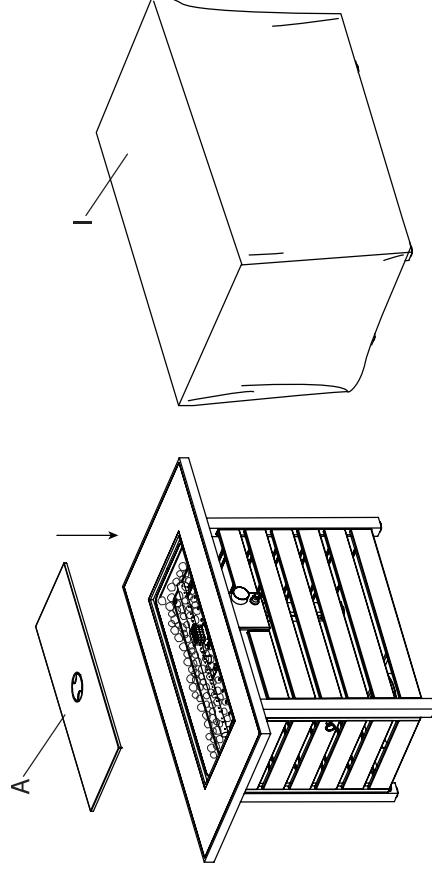

Figure 9
7. Open the box of lava rocks, put the lava rocks (K) into the fire bowl of the fire table, (see Figure 9). A gas fire pit requires 13.2 lbs lava rocks.
9. Once the firepit has cooled completely after use, carefully place the lid (A) onto the fire bowl and use the weather cover (I) to protect your fire pit from the elements (see Figure 9).